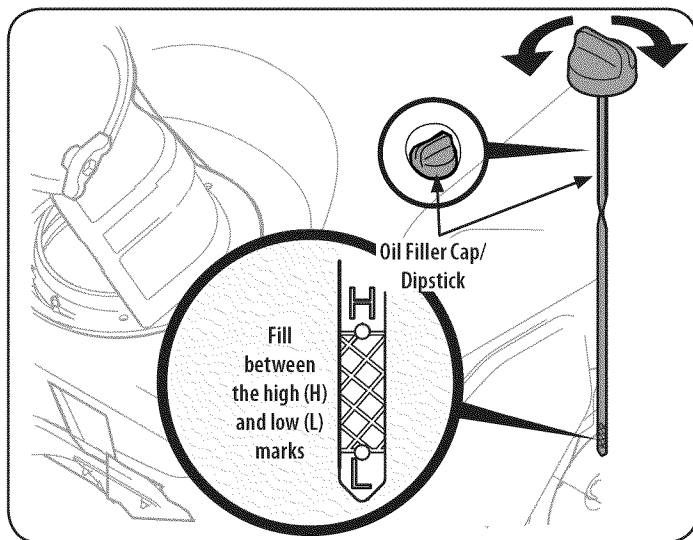

Figure 11
2. Remove the oil filler cap/dipstick and wipe the dipstick clean. See Figure 11.
4. Remove the oil filler cap/dipstick. If the level is low, slowly add oil until oil level registers between high (H) and low (L), Figure 11.